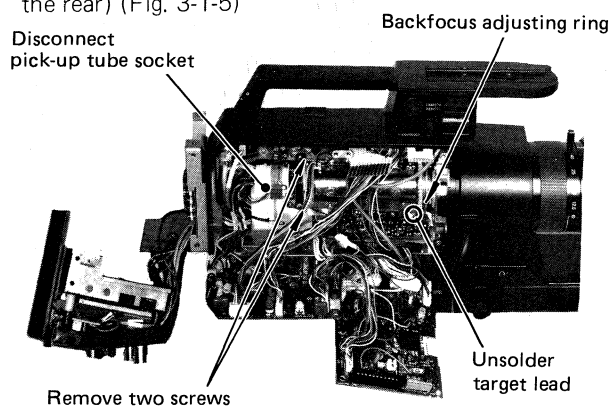

Fig. 3-1-5
- Remove the backfocus adjusting ring from the coil holder by turning it counterclockwise (Viewed from the rear) (Fig. 3-1-5)